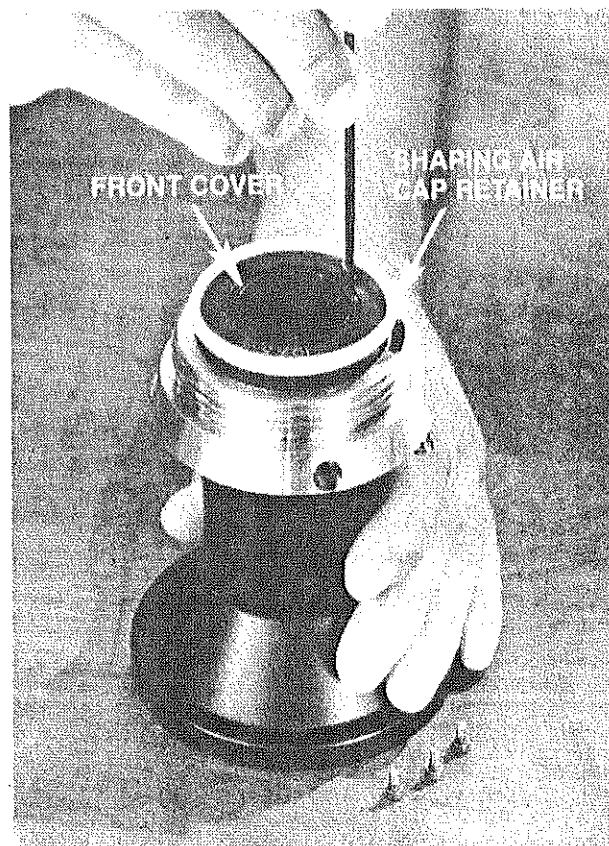

FIG. 25
4. Place new shaping air cap retainer over rear of front cover. Make sure the retainer fits properly in the shoulder (Fig. 25).
5. Attach shaping air cap retainer and front cover to turbine body using four lubricated M3X6 MM cap screws (Fig. 25). Tighten to 15-16 in. lbs. torque.